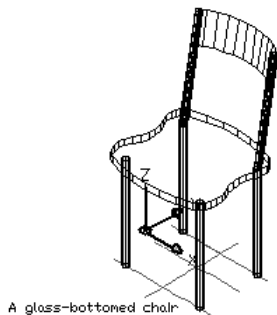

Figure 21-19: The completed glass-bottomed chair.
23. Save your drawing. The chair should look like Figure 21-19.